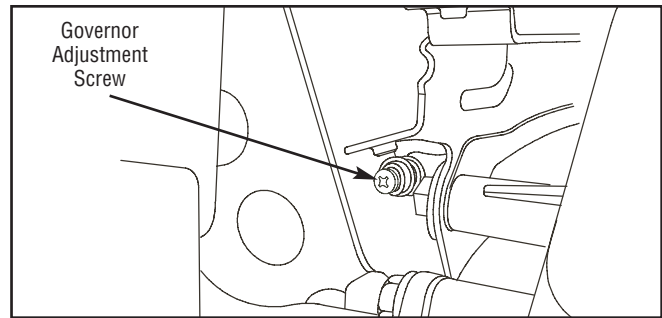

Figure 16 — Governor Adjustment Screw
- 8B. **For a 15kW generator**, normal no load frequency is 62.0 to 62.5 Hz. If adjustment is needed at no load, slowly rotate the governor adjustment screw (Figure 16) clockwise and/or counterclockwise until frequency is 62.0 to 62.5 Hz.